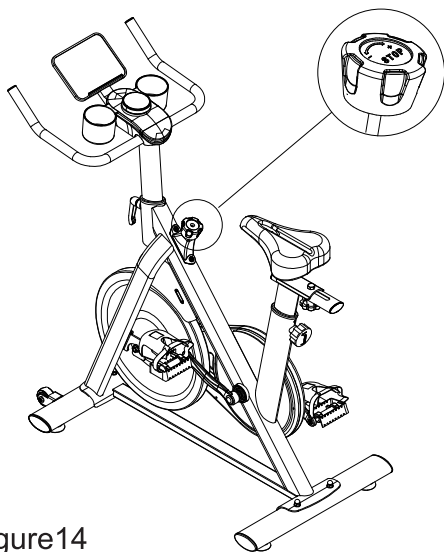

Figure14
14. Rotate the adjustment handle clockwise or anticlockwise to adjust the resistance up or down. Depress the handle to engage the emergency brake function, as shown in Figure 14.